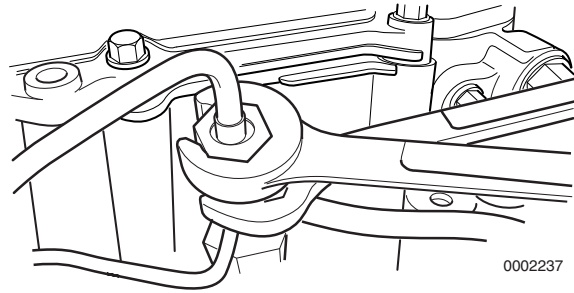

Figure 7-5
3. When tightening the fuel line nuts on the fuel injectors, use one wrench to hold the fuel return line nut and fuel return line from rotating. Use a second wrench to tighten the fuel line nuts (Figure 7-5). See *Special Torque Chart* on page 7-7.